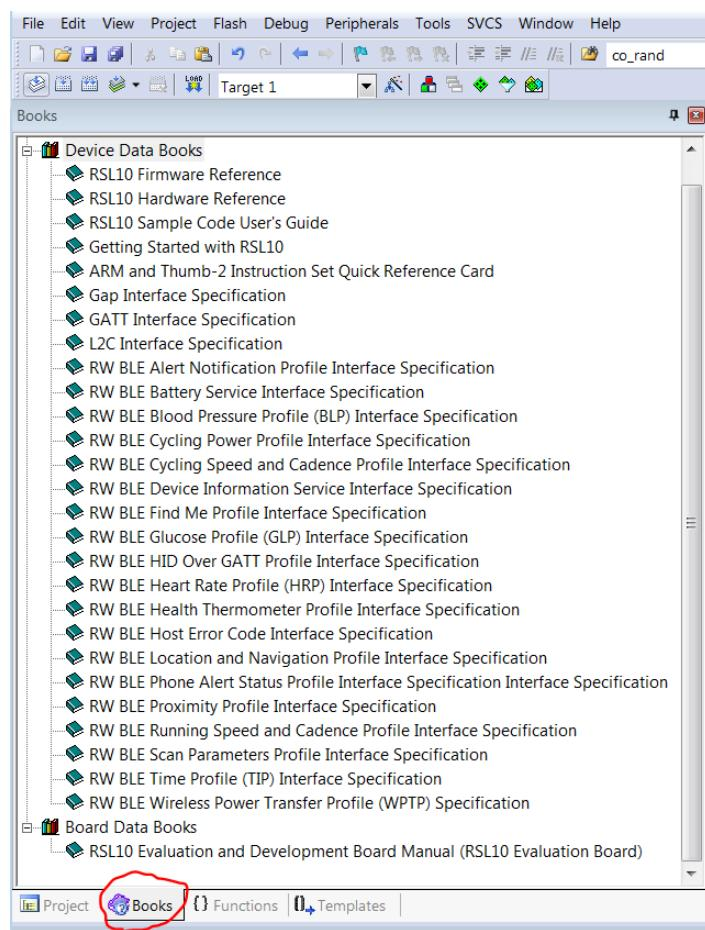

Figure 55. Accessing RSL10 Documentation from the Keil μVision IDE
- Keil µVision IDE: documentation is available in the **Books** tab, as shown in Figure 55.